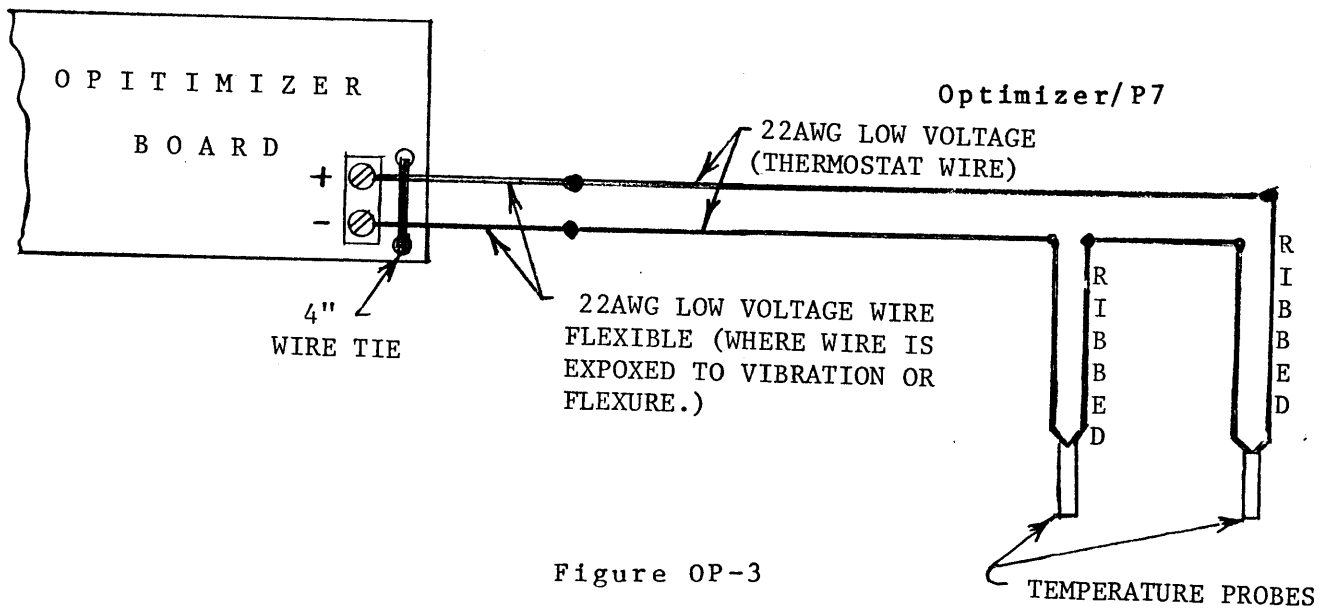

Figure OP-3
(5) Wire the Optimizer to the temperature probes as shown in Figure OP-3. Be sure to observe all polarities shown. All wiring is low voltage and low current. Although solid thermostat wire can be used most of the way, it is recommended that stranded wire be used where vibration or straining is encountered. Wire nuts can be used for making the interconnections. Be sure to tie-wrap the ends attached to the Optimizer board.